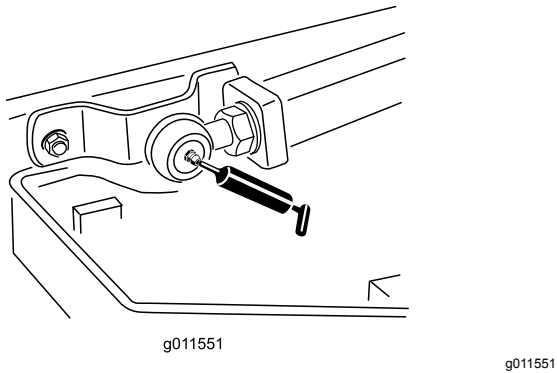

Figure 65
- Lift arm ball joints (2) (Figure 65)